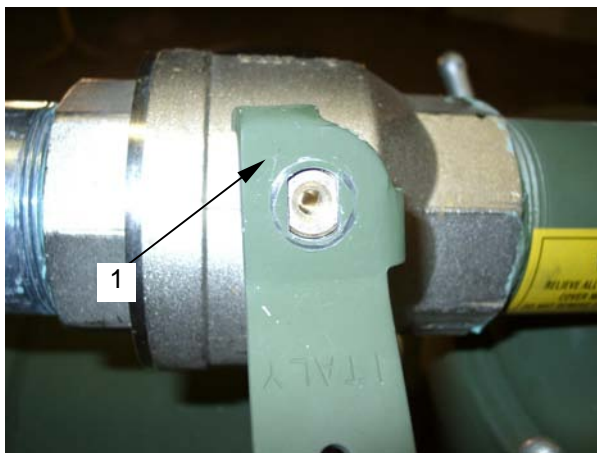

Figure 6. Valve Handle
13. Install valve handle (figure 6, item 1) on to valve stem.
14. Fasten valve handle with mounting bolt (figure 6, item 2).